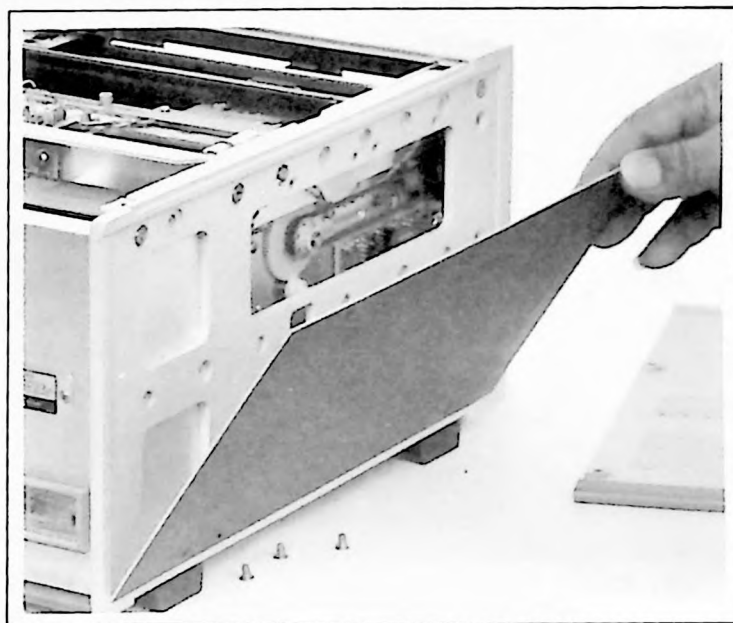

Figure 5-5. Top/Side Cover Removal
b. Top Cover — Cover retained by five screws. Remove screws. See Figure 5-5.
c. Side Covers — To remove the side covers (left and right sides) remove screws (four on each side). See Figure 5-5.